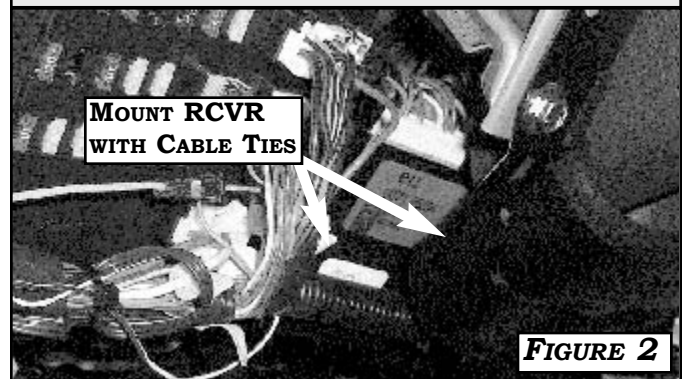

FIGURE 2
- 2) CONNECT **RECEIVER BOX** TO **RF HARNESS** AND MOUNT BOX BELOW STEERING COLUMN ALONG IGNITION HARNESS TO THE RIGHT OF THE **DRIVER SIDE J/B** WITH CABLE TIES AVOIDING SHARP EDGES AND MOVING PARTS. **FIGURE 2**